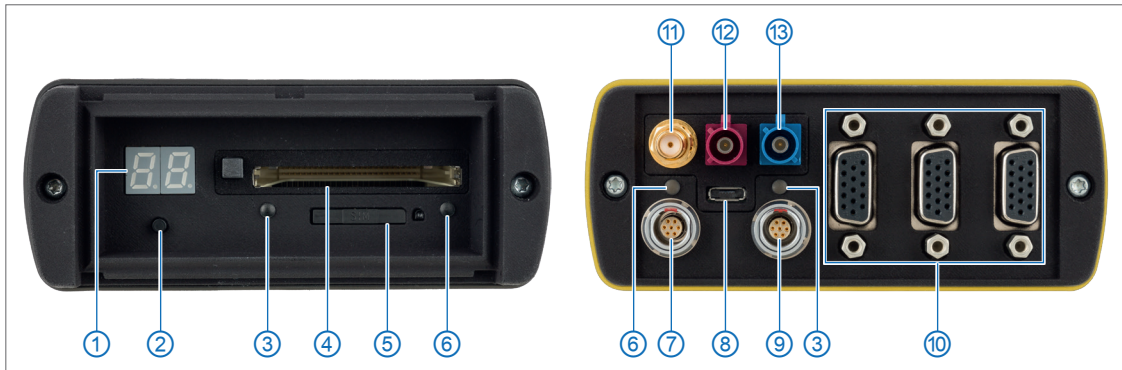
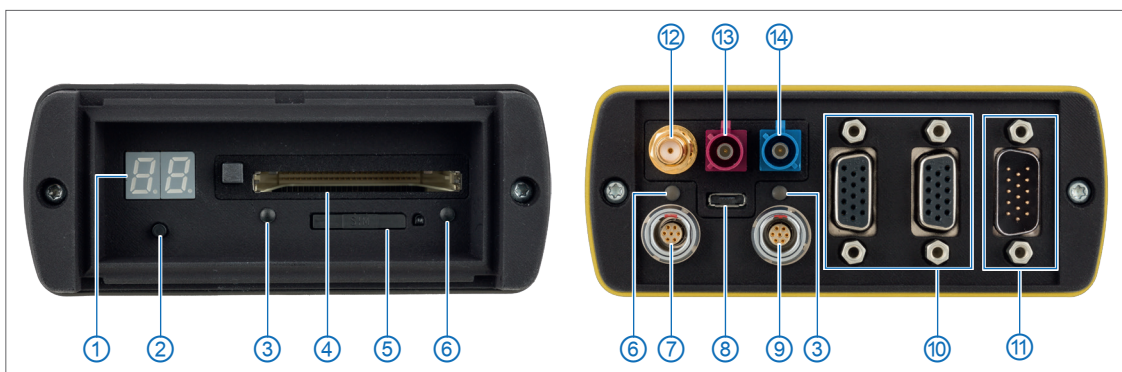

Fig. 3-1: UniCAN 3, full expansion stage: connectors front and rear side Connections front and rear side
Fig. 3-2: UniCAN 3 ETH, fully upgraded: Connections front and rear side
- ▶ The network LED (Fig. 3-1/Fig. 3-2, ③) indicates the transmission status.
- ▶ The status LED (Fig. 3-1/Fig. 3-2, ⑥) indicates the status of measurement, operation and card access.
There is also a 2-digit 7-segment display on the front of the UniCAN 3 (Fig. 3-1/Fig. 3-2, ①). This display supplements the two LEDs and is used for the visualization of device status and error codes. An illuminated decimal point in the 2-digit 7-segment display indicates the status that is currently being displayed:
The display is automatically switched on for 10 seconds after the device is restarted or for 2 seconds in case of a change of status. If the display is inactive, pressing the button (Fig. 3-1/Fig. 3-2, ②) initiates the display of the measurement status (for 10 seconds). Pressing the button again switches between the display of measurement and transmission (the display will be lit for another 10 seconds). In standby mode of a Wake-on-CAN with No-Message-Lost configuration, the measurement is started by pressing the button for at least five seconds. While the button is pressed, the display shows a countdown, counting down from 4 to 0.